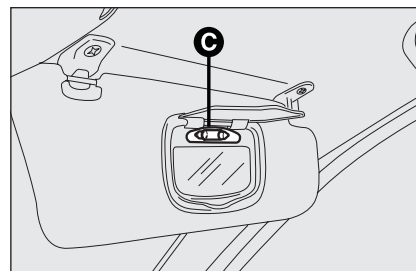

fig. 46
- ☐ replace the bulb **C-fig. 46** releasing it from the side contacts making sure that the new bulb is correctly clamped between the contacts.